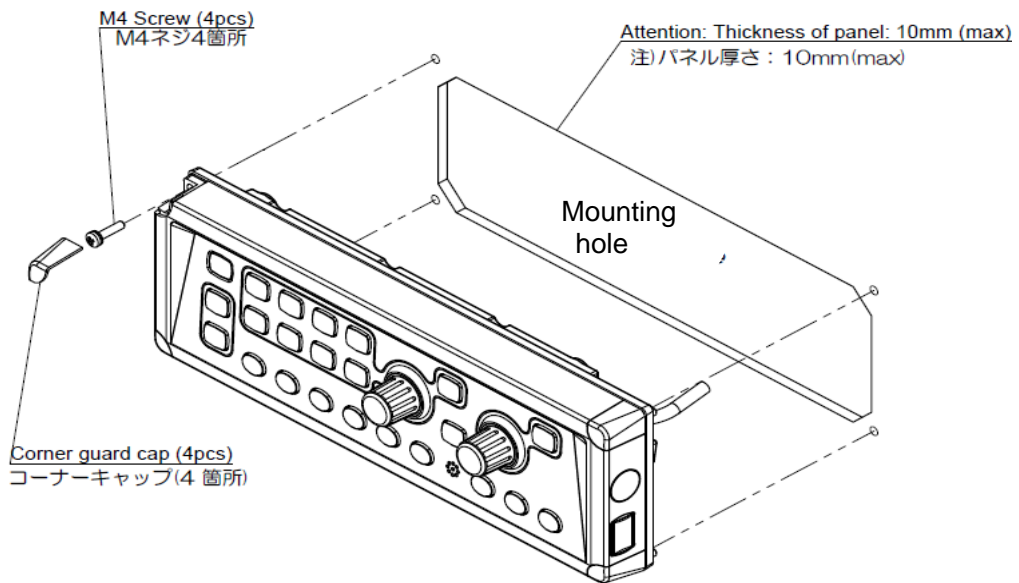
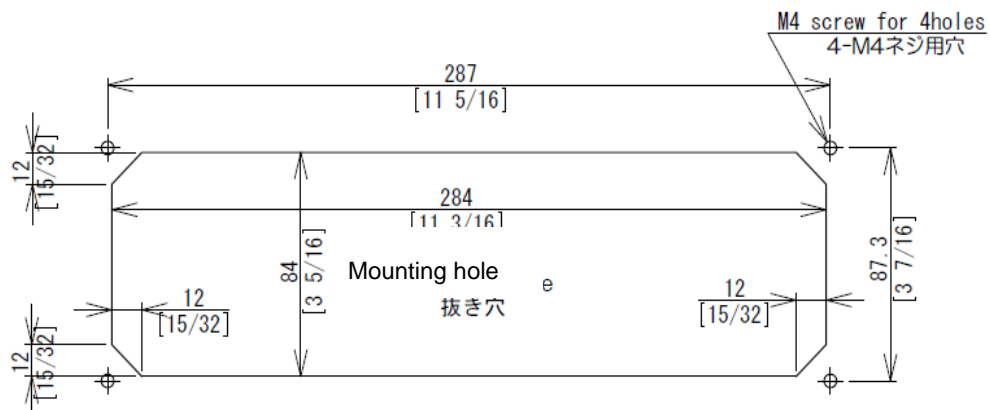

Fig. 1.4 Flush-mount installation of Operation unit
Fig. 1.5 Hole for flush-mount installation of Operation unit
- (1) Make a square hole at the location to be installed (See Fig. 1.5)
- (2) Remove 4 plastic corner guard caps of the Operation unit (These can be easily pulled out upwards).
- (3) Confirm that the Operation unit matches the mounting hole. If not matches, correct the mounting hole.
- (4) Put the Operation unit and connected cable into the mounting hole, and set it to the position in which the Operation unit becomes parallel to the install panel. (Fig. 1.4)
- (5) Install the Operation unit in the installing location (Mounting hole) and fix it with 4 tapping screws (4 mm) (M4 or pan-head). (Prepare 4 mm screws suitable for thickness of installing location.)
- (6) Install the corner guard caps removed in step (2).